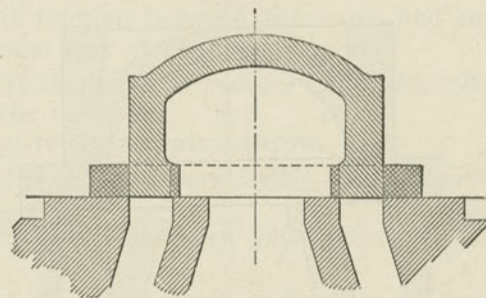

Fig. 152. Slide Valve with Outside and Inside Lap Added.
*Q. What is the effect of giving the valve legs or lips a certain lap inside the inside edges of the end ports? (See Fig. 152.)*